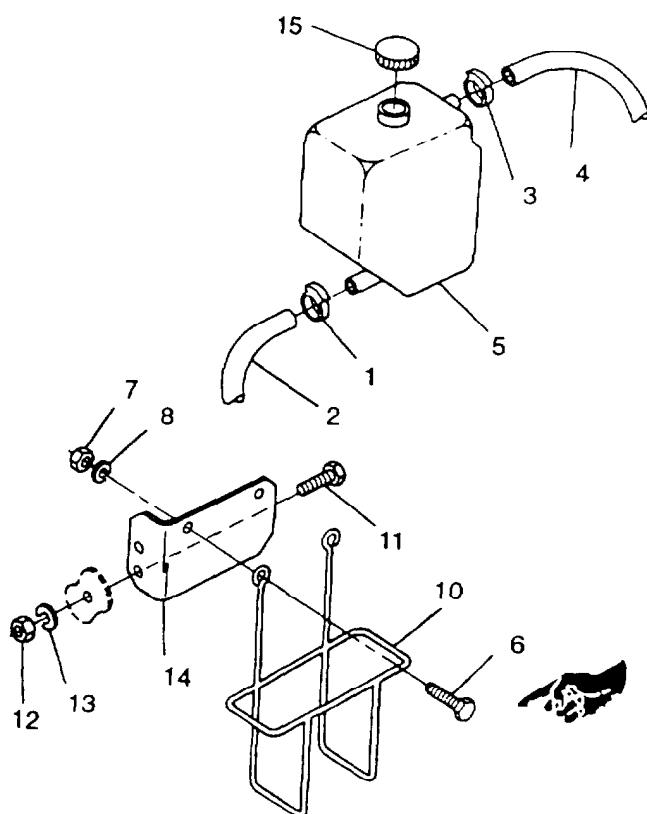

FIGURE 2-26. Coolant Recovery System
- c. Loosen clamp (1, FIGURE 2-26) and disconnect hose (2) from overflow bottle (5) and drain coolant into suitable container.
- d. Loosen clamp (3) and disconnect hose (4) from overflow bottle (5).
- e Remove overflow bottle (5) from wire holder (10).
- f. Remove bolts (6), nuts (7), lockwashers (8), and wire holder (10) from mount (14).
- g Remove bolts (11), nuts (12), lockwashers (13), and mount (14) from engine.
- a Install mount (14, FIGURE 2-26) on engine with bolts (11), nuts (12). and lo&washers (13)
- b. Install wire holder (10) on mount (14) with bolts (6), lockwashers (8), and nuts (7).
- c Install coolant overflow bottle (5) in holder (10) and connect hoses (2) and (4) with clamps (1) and (3)
- d Remove cap (15).
- e. Fill overflow bottle (5) with coolant to the COLD level. Refer to TABLE 2-1 for proper coolant.
- f. Install cap (15)
- h. Remove cap (15).
- i. Add coolant to HOT level of overflow bottle (5).
- j. Install cap (15) and close left side engine access door.